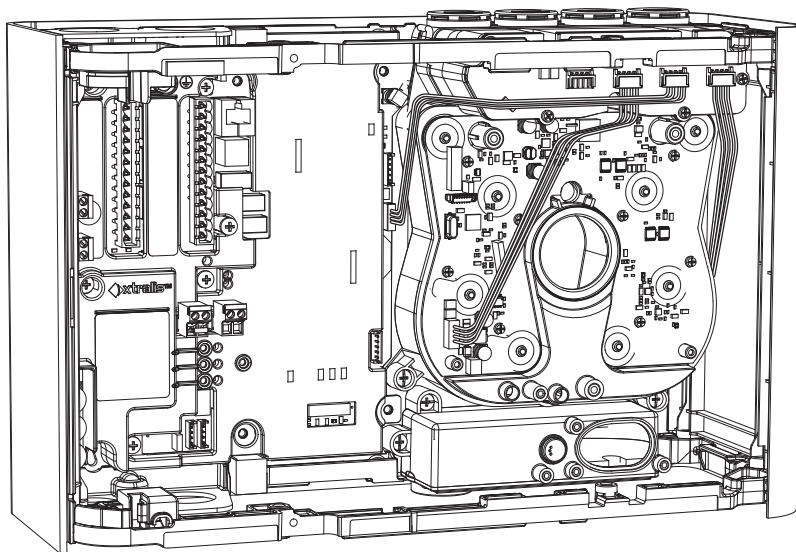

Figure 7-24: Disconnect the main board loom connection at J2 and antenna connection at J11
2. Disconnect the main board loom connection at J2 and antenna connection at J11 (Figure 7-24).